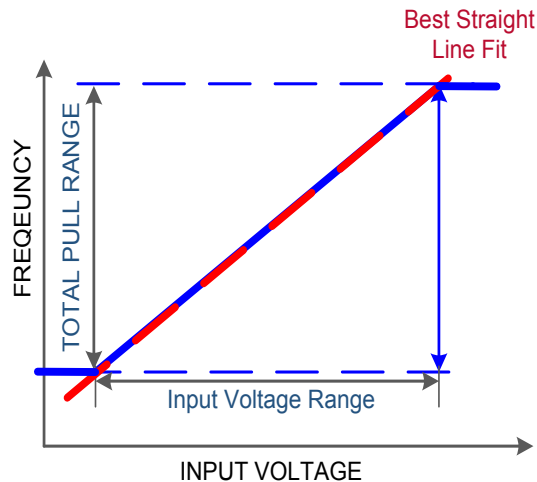

Figure 24. Typical SiTime VCTCXO Linearity
In any VCTCXO, there will be some deviation of the frequency-voltage (FV) characteristic from an ideal straight line. Linearity is the ratio of this maximum deviation to the total pull range, expressed as a percentage. Figure 24 below shows the typical pull linearity of a SiTime VCTCXO. The linearity is excellent (1% maximum) relative to most quartz offerings because the frequency pulling is achieved with a PLL rather than varactor diodes.